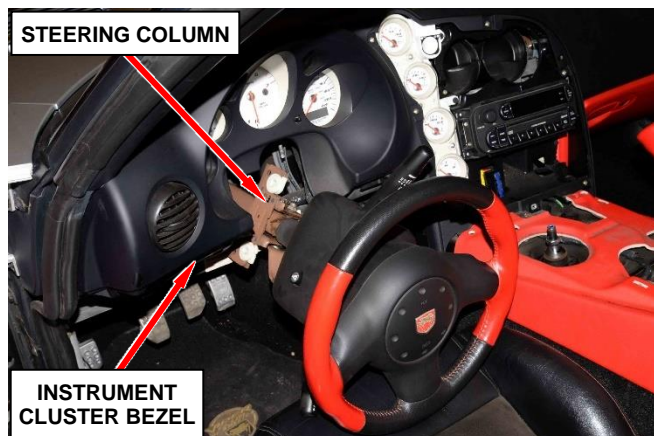

Figure 10 – Steering Column
25. Carefully lower the steering column for access to the instrument cluster bezel (Figure 10)
58. Raise the steering column to the cross car beam then install the four nuts securing the steering column. Tighten the nuts to 17 N·m (150 in. lbs.) (12.5 ft. lbs.) (Figure 10).